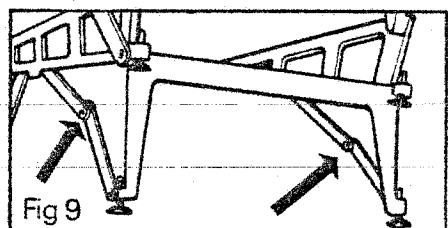

Fig 9
- 3 Reach over the vice bars and bend both leg support struts before pushing the rear leg away under the Workmate, see Fig. 9 and 9a.